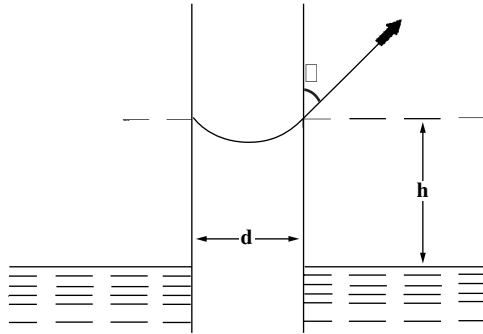

FIGURE C-1 Capillary rise.
**Capillary rise** The result of capillary action, as may happen in small pores of soils or in small-diameter glass tubes. Equation C-1 expresses the height of the capillary rise  $h$  as a function of the diameter  $d$  of the glass tube or soil pore, the surface tension of the liquid  $\sigma$ , the angle of adhesion  $\alpha$  between the liquid and the tube or soil, the specific weight  $\gamma$  of the liquid (Figure C-1). The capillary rise in soils varies from 3 cm in sand of 2 mm to more than 30 m in clay particles smaller than 0.002 mm.